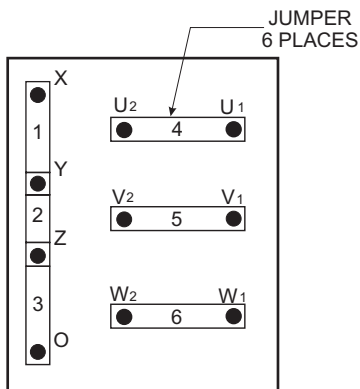

Figure 25. Voltage Change-Over Board 3Ø-240/139V Configuration
1. Jumper the voltage change-over board for 240V operation as shown in Figure 25.
1. Make sure the voltage change-over board is jumpered for 240V operation as shown in Figure 25.